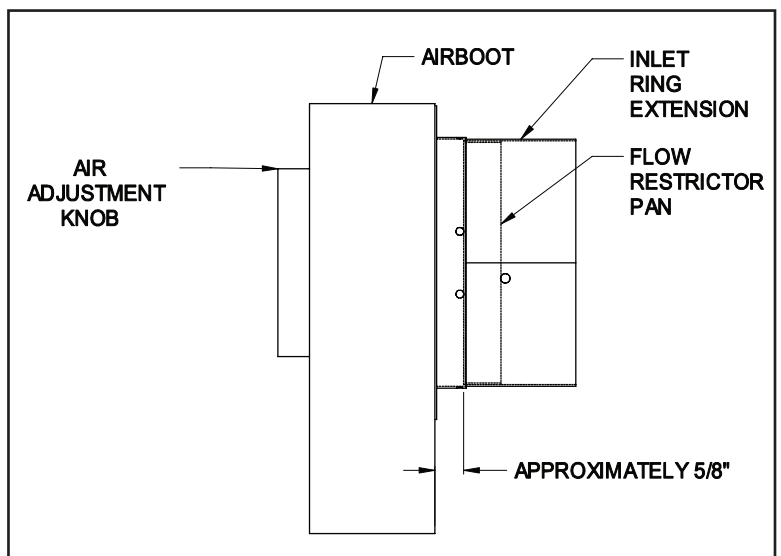

Figure 5
- b. Push the pan in all the way, approximately $\frac{5}{8}$ " from the air adjustment blades. (See Figure 5)